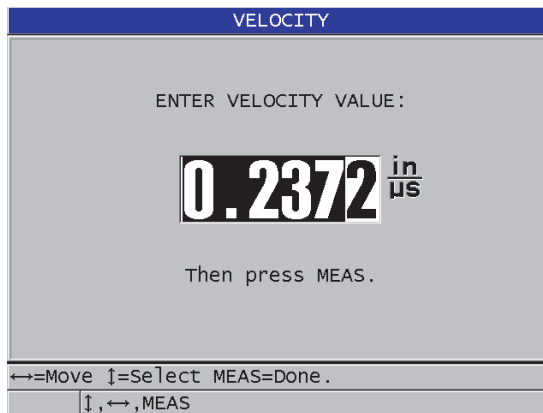

Figure 5-7 Entering a known material sound velocity
2. In the **VELOCITY** screen (see Figure 5-7 on page 86), use the arrow keys to edit the velocity to the known value.